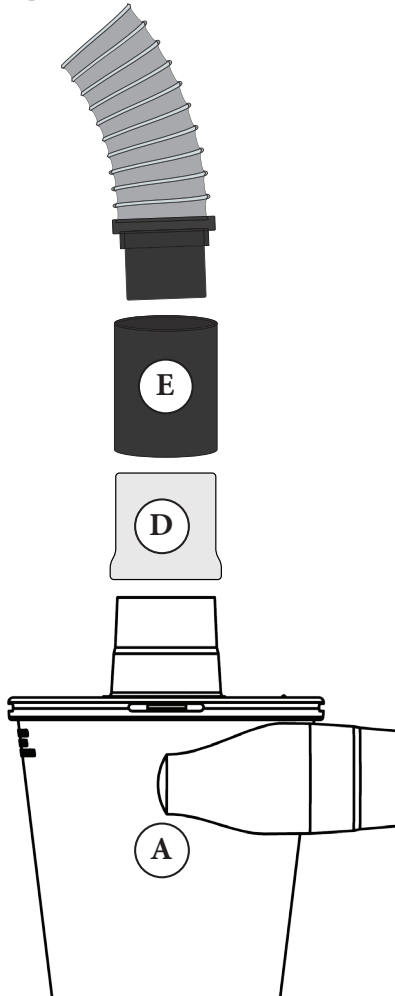

FIG. 6
Slide the Hose Adapter (D) over either the inlet or outlet of the Cyclone (A). Then slide the House Coupler (E) over the Hose Adapter. Then insert your hose into the House Coupler [FIG. 6].